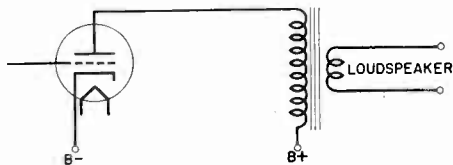

Fig. 2-96
*Ans.* Refer to Fig. 2-96. This time we are to use inductive coupling (a transformer) to couple to the loudspeaker.